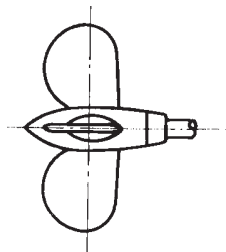

Fig. 6
- G)** Move the blades to the feathered position, making sure that the rounded trailing edges of the blades are aft as shown in figure 6 of the instruction manual. Slide the end cap and feathered blades onto the spinner, make sure that the numbers on the blades and spinners match. Next tighten down the end cap with the screws.
- In the feathered position the blades must line up perfectly (fig. 6)